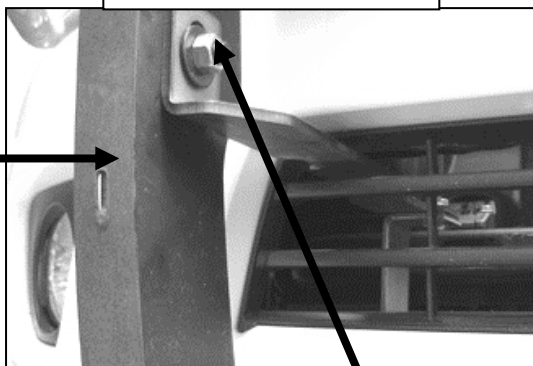

Figure 4
- Once the bottom brackets are loosely installed, proceed to attach Grille Guard to Top Brackets by using the included (2) 10-1.50mm Button Head Bolts, (2) 10mm Nylock Nuts, and (2) 10mm Flat Washers (Figure 4). Do not tighten at this time.